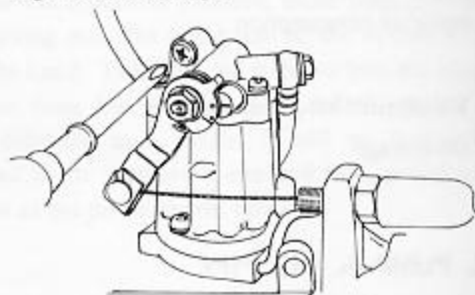

Fig. 6-17 Expelling air in oil pump
2. Check the oil pump for any air trapped inside. As shown in Fig. 6-17, the expelling air screw is loosened and tightened after confirming the oil discharge.
2. The oil pipe should also be filled with oil to expel air, as shown in Fig. 6-17.